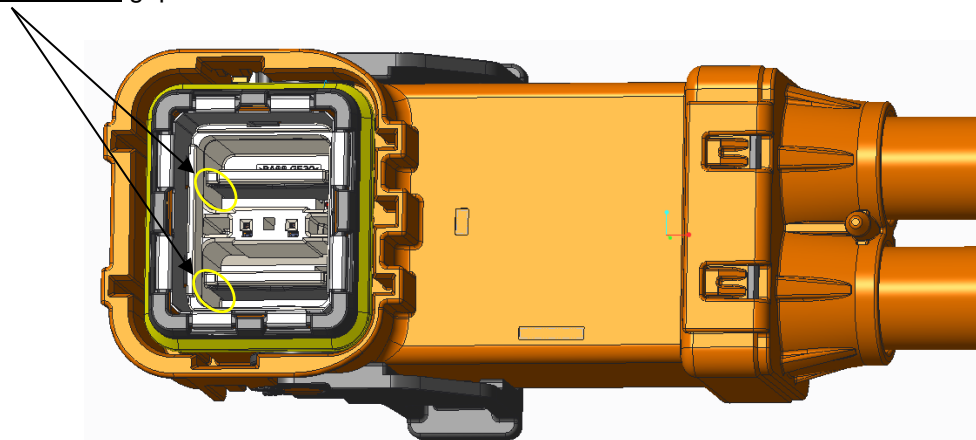

Figure 13: HV Tab Gap
12. Verify the gap between ***BOTH*** HV Tabs and the plug inner housing is ***1.0mm MAX*** as shown in Figure 13.